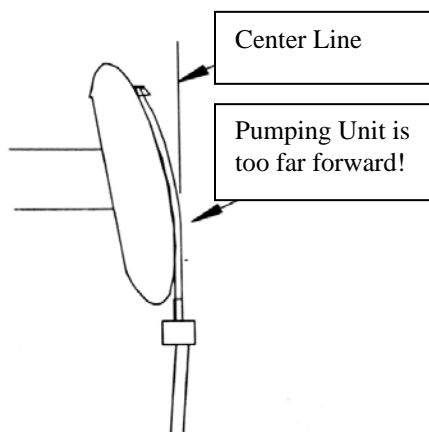

Figure 1
- ☐ From the side of the pumping unit, look to see if the polished rod is tracking straight up and down. See figure 1.